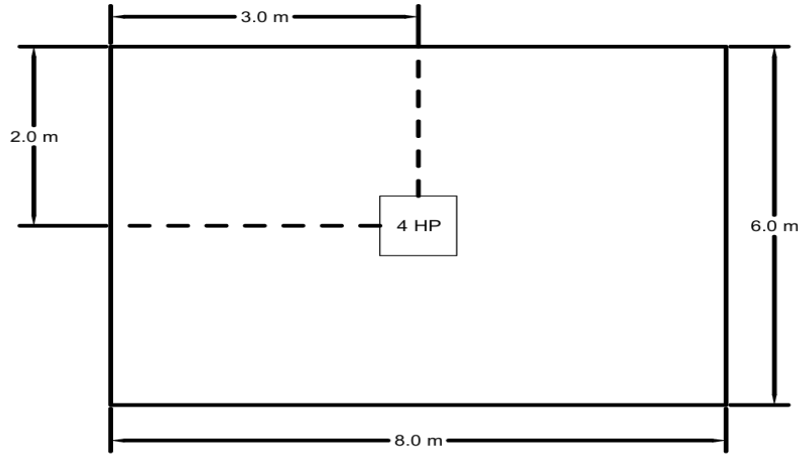

Fig. No. 2
(Prepare the schedule of material for industrial installation as shown in Fig. No.2)
11. इन इंडस्ट्रीज 15 HP ३ फेज इंडक्शन मोटर साठी इलेक्ट्रिकल इन्स्टॉलेशन एलटी डिझाइन प्लॅन आणि आवश्यक मटेरियल ची यादी तयार करा? (In a workshop, one 15 HP 400 Volts, three phase 50 Hz motor is to be installed. Prepare the estimate of quantity of material required and its cost with a layout of the wiring. The plan of the workshop is shown in Figure No. 2)